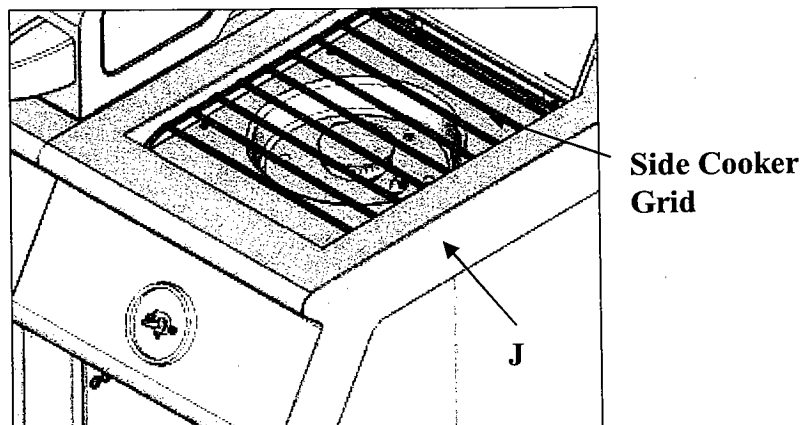

Fig. 32
- f. Position the side cooker grate. See Fig. 32